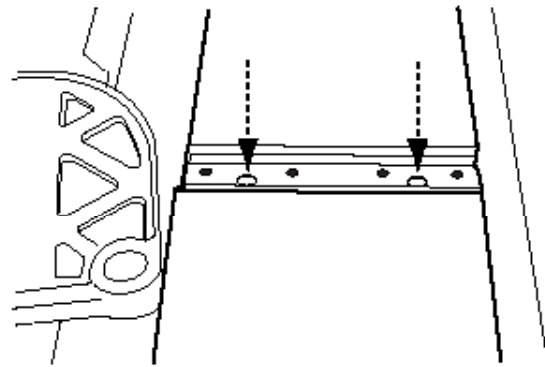

FIGURE 9
7. Locate the two adjustment screws on the exposed knife. Refer to Figure 9.